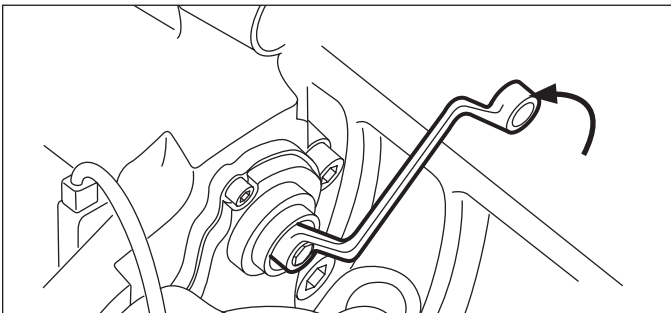

Figure 15 – Counterclockwise rotation
6. Using the same tool, turn the shear adapter counterclockwise and listen for the sound of 3 clicks as the mechanism backs-off (increases) the running clearance. (See Figure 15).